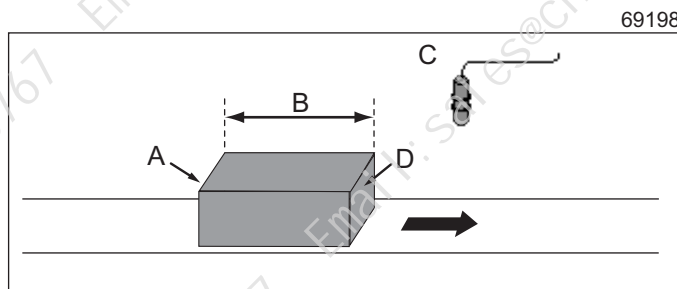
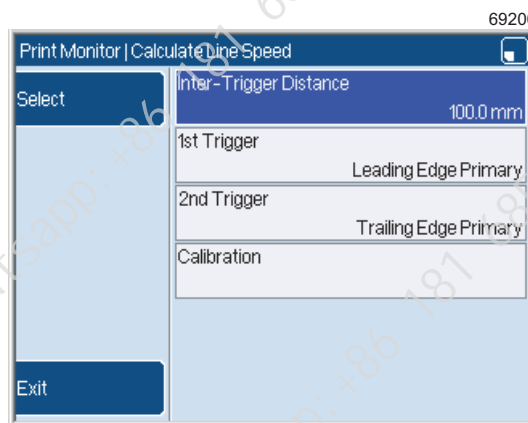

Figure 7. Line Speed Calibration
Figure 8. Calculate Line Speed page
Put a test item on the conveyor, as shown. The large arrow in Figure 7 shows the direction of the movement of the test item. The test item has a known length (B). This length is the **Inter-Trigger Distance** (see Figure 8). The product sensor (C) measures the time difference between the leading edge (D) of the test item and the trailing edge (A). The printer uses the **Inter-Trigger Distance** and the time difference to calculate the line speed.
Set this value to the distance between the sensor devices. The Inter-Trigger Distance in Figure 7 is the length of the test item (B).
Use this option to define the trigger signal for the trailing edge of the test item. You can use the same sensor device for the 1st Trigger and the 2nd Trigger, as shown in Figure 7 and Figure 8.